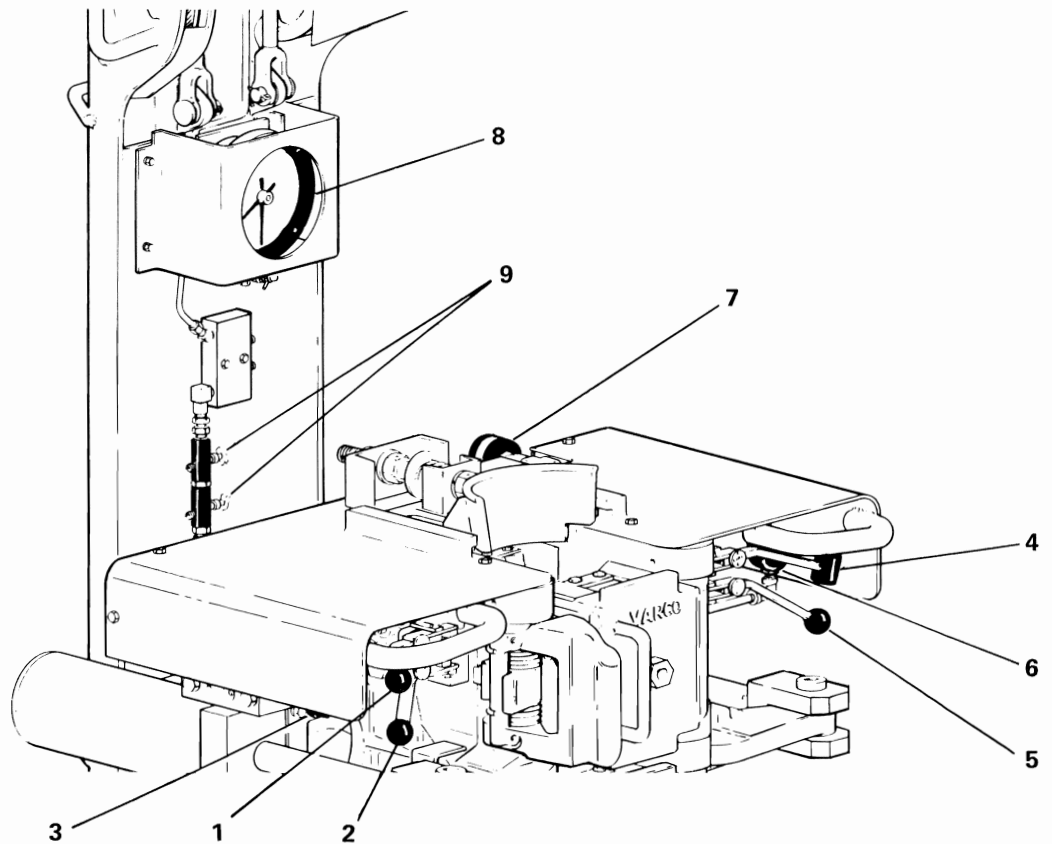

Figure 1-4. TW-60 Controls and Indicators
- 1-8. **Upper and Lower Clamp Controls.** (1 and 2, Figure 1-4) The clamp control valve, located on the left side of the upper body, is divided into two segments. The upper half controls the upper clamping cylinder and the lower half controls the lower clamping cylinder. the valve is a three-position (in-neutral-out) valve detented in the in and out positions. Pulling the lower clamping valve control lever all the way out will clamp the lower clamp on the tool joint box. Pushing the lower clamping valve control lever all the way in will release the clamp from the tool joint box. The upper clamping valve control lever performs the same functions on the tool joint pin.
1-9. **Dump Valve.** (3, Figure 1-4) The dump valve is a two-position, normally closed valve located on the left torque cylinder. It is mechanically actuated when the cylinder is fully retracted, and reduces the pressure on the torque gauge to near zero. A loss of pressure on the torque gauge indicates that the TW-60 has rotated to the limit of its 34-degree travel.
1-10. **Torque Makeup/Breakout Control.** (5, Figure 1-4) The torque makeup/breakout valve is spring centered, located on the right side of the TW-60, and has a spherical knob. Pulling the knob provides make up torque until either the preset torque is reached, or the cylinders reach the end of their stroke. Pulling the knob before clamping on the tool joint pin will cock the TW-60 for breakout. Clamp the pin and push the torque knob in to break out.
1-11. **Pressure Reducing Valve.** (7, Figure 1-4) The pressure reducing valve (PRV) adjusts the torque applied by the TW-60. The PRV is located on the right side of the back guard and is manually adjusted.
1-12. **Supply Pressure Gauge.** (6, Figure 1-4) The supply pressure gauge is a 0-3000 psi direct reading gauge located on the right side of the TW-60 behind the torque handle. This gauge provides an indication of inlet system pressure from the hydraulic power supply.
1-15. **Flow Control Valves.** (9, Figure 1-4) A pair of adjustable flow control valves, installed in the hydraulic line to the lifting cylinder, control the speed of the TW-60 travel. Rotating the handles clockwise will reduce the flow to reduce speed. The lower valve controls the down speed and the upper valve controls the up speed.
1-16. **Torque Gauge.** (8, Figure 1-4) The torque gauge is located on the front face of the vertical positioning system hanger and is direct reading to indicate makeup torque in foot-pounds and either kilogram meters or Newton meters. A damper is provided to smooth severe fluctuations in the pressure. A red adjustable pointer assists torque gauge readings and a zero adjust knob on the back of the gauge case allows the gauge to be set to 0 when no torque pressure is applied.
1-17. **Vertical Lift Control.** (4, Figure 1-4) The vertical lift control valve is located on the right side of the TW-60 above the torque control valve. The lift control valve has a cylindrical handle. Pulling out on the handle raises the TW-60 and pushing in lowers it. The valve is spring loaded to the center position, when it is released, movement stops.